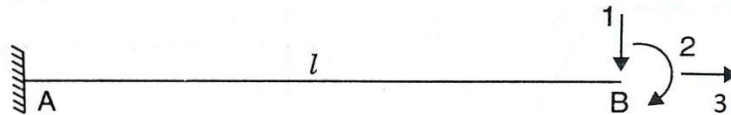

Figure 2.1
2. a) Find the flexibility matrix of the cantilever shown in Figure 2.1 EI is constant.